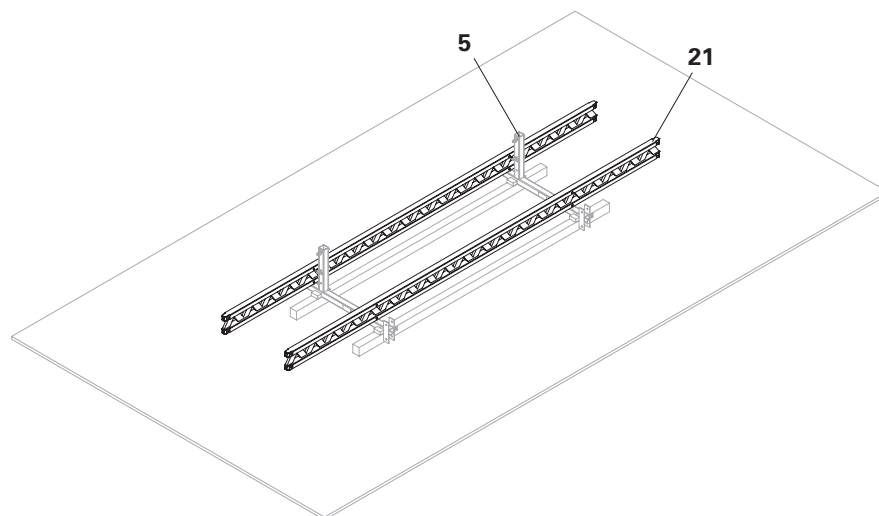

Fig. B5.05
2. Place the GT 24 Formwork Girders (**21**) on the Climbing Platform Beams ACS (**5**) and align them. (Fig. B5.05)